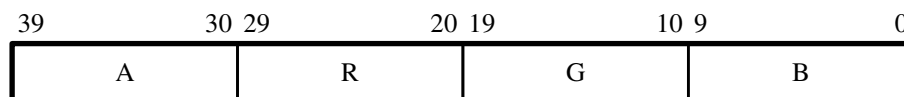

Figure 15. 40-bit RGBA Color Space.
- 40-bit RGBA — This format contains alpha values as well as RGB and uses 10 bits of each color as shown in Figure 15. This mode is defined as 10 bits per color and four color planes.